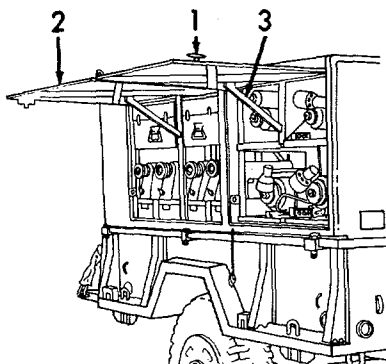

Figure 2-3. Opening the Side Doors.
a. *Opening Up the Trailer* (Refer to Figures 2-3 and 2-4).
(1) Refer to Figure 2-3. Turn both latch handles (1) on each side door (2) to unlock the doors (2).
(2) Raise the doors (2) and make sure the door stays (3) latch to hold the doors (2) in the open position.